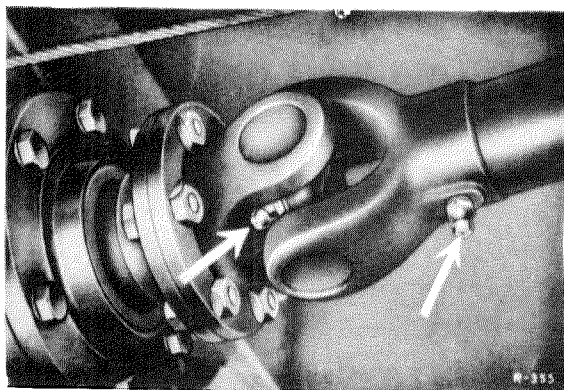

Fig. 41 — 1/6
- d) Pinion rim grease fitting for the rear universal joint (Fig. 41 — 1/6).
- e) Pinion rim grease fitting on slip coupling (Fig. 41 — 1/6).